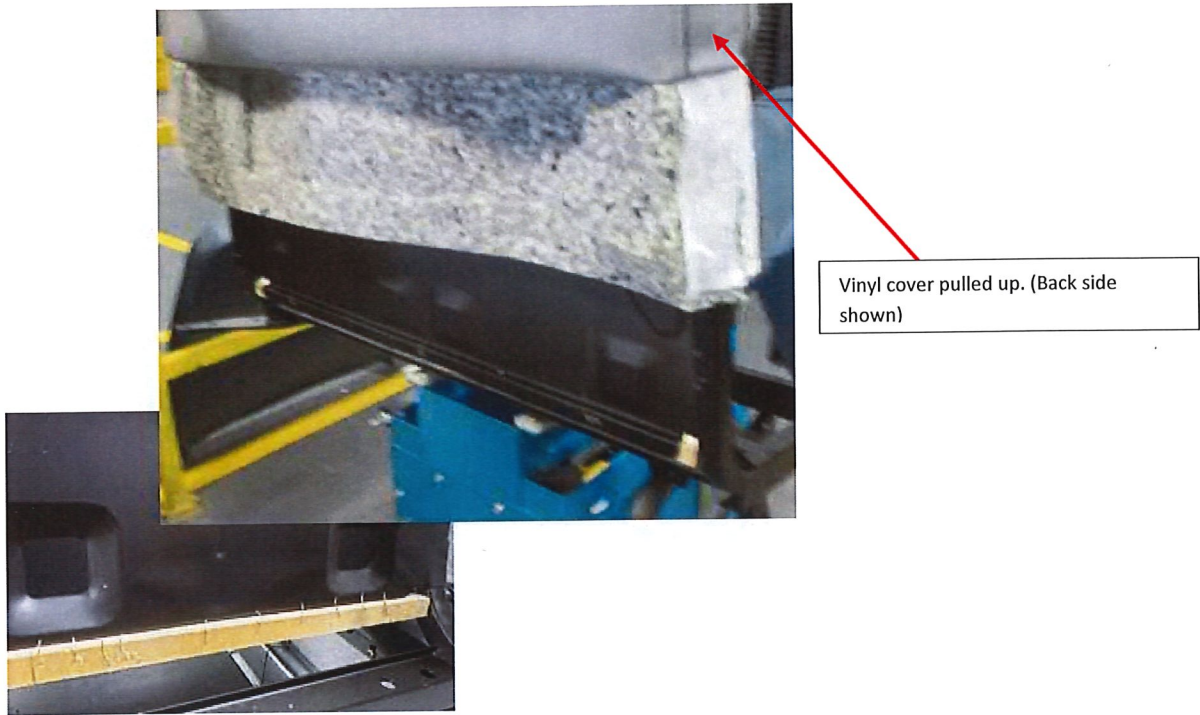

Figure 6: View of front and back of seat with Vinyl and foam pulled up
11. Views of front and back of the Vinyl cover and seat foam. **Figure 6**